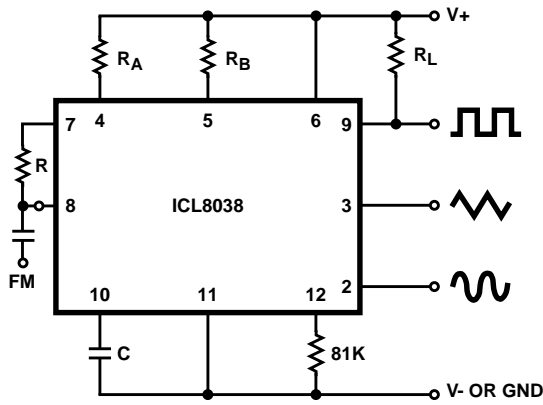

FIGURE 5A. CONNECTIONS FOR FREQUENCY MODULATION
- $V_{\text{SUPPLY}} = 20\text{V}$ ;  $R_A$  and  $R_B = 10\text{k}\Omega$ ,  $f \cong 10\text{kHz}$  nominal; can be extended 1000 to 1. See Figures 5A and 5B.
The frequency of the waveform generator is a direct function of the DC voltage at Terminal 8 (measured from V+). By altering this voltage, frequency modulation is performed. For small deviations (e.g. ±10%) the modulating signal can be applied directly to pin 8, merely providing DC decoupling with a capacitor as shown in Figure 5A. An external resistor between pins 7 and 8 is not necessary, but it can be used to increase input impedance from about 8kΩ (pins 7 and 8 connected together), to about (R + 8kΩ).